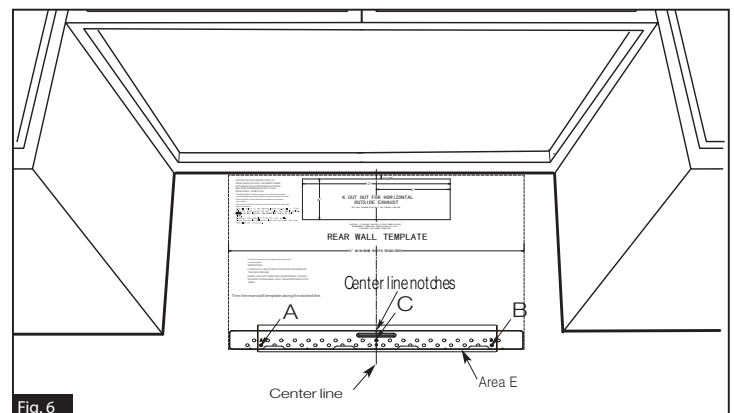

Fig. 6
Aligning Top Line of Rear Wall Template (Fig. 6)
4. While taping the rear wall template on the wall draw circles on the wall at hole A,B,C (See Fig. 6 / actual plate marked with arrows). THREE HOLES MUST BE USED FOR MOUNTING. (If there are 2-wall studs in right and left side based on center line Four hole must be used for mounting)